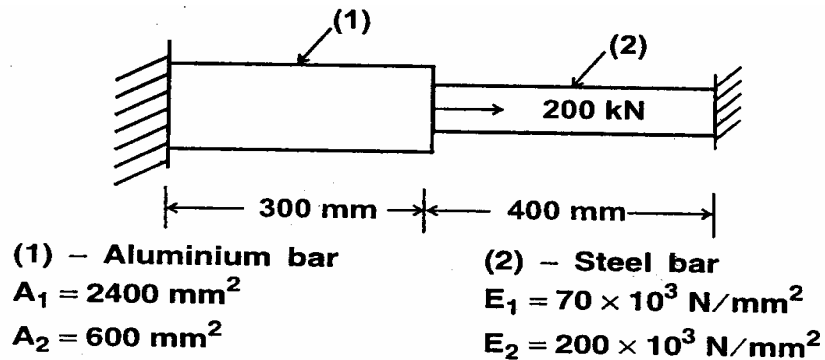

figure 2.5
5. A stepped bar is subjected to an axial load of 200 kN at the place of change of cross section and material as shown in figure 2.5. Find (a) The nodal displacements (b) the reaction forces (c) the induced stresses in each material